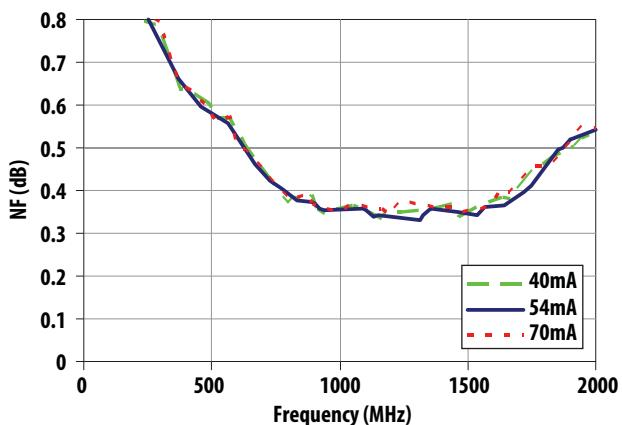

Figure 30. NF vs Frequency vs Idd
2. Scattering and noise parameters are measured on coplanar waveguide made on 0.010 inch thick ROGER 4350. The input reference plane is at the end of the RFinput pin and the output reference plane is at the end of the RFoutput pin as shown in Figure 30.